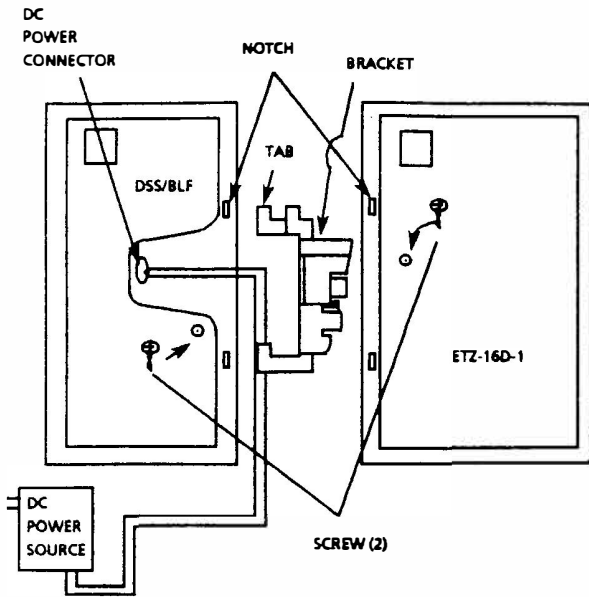

Figure 200-62 DSS/BLF Console Connection to an ETZ-16D-1 Key Telephone
3. Insert the DSS/BLF Console connector bracket (with the tabs pointing up) into the two notches located on the right side of the DSS/BLF Console. Secure it with the provided screw. Refer to Figure 200-62 DSS/BLF Console Connection to an ETZ-16D-1 Key Telephone.
6. Insert the DSS/BLF Console connector bracket (with the tabs pointing up) into the two notches located on the left side of the Key Telephone, and secure it with the provided screw. Refer to Figure 200-62 DSS/BLF Console Connection to an ETZ-16D-1 Key Telephone.